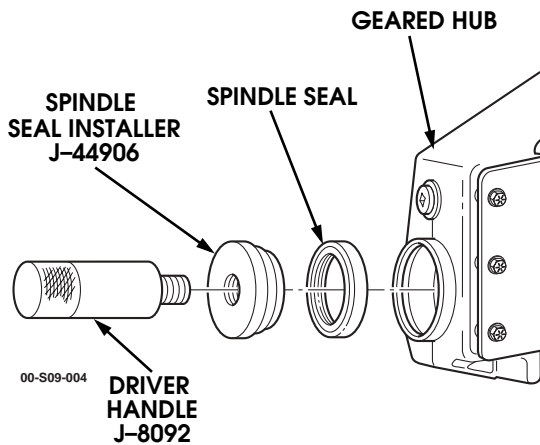

Figure 9-29: Spindle Seal Installation
1. Place the new output seal on the installer J-44906, with the seamed side of the stainless steel perimeter facing toward the geared hub and drive the seal in until the installer bottoms out on the geared hub surface. The seal will be recessed in the geared hub approximately 0.185". This dimension is critical and must be achieved using the special tool. (Figure 9-29).